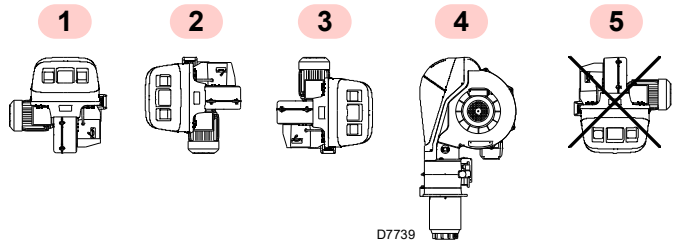

Fig. 13
- The burner is designed to operate only in positions **1**, **2**, **3** and **4** (Fig. 13).
- Fit the entire burner onto the boiler hole prepared previously (Fig. 13), and fasten with the screws supplied.